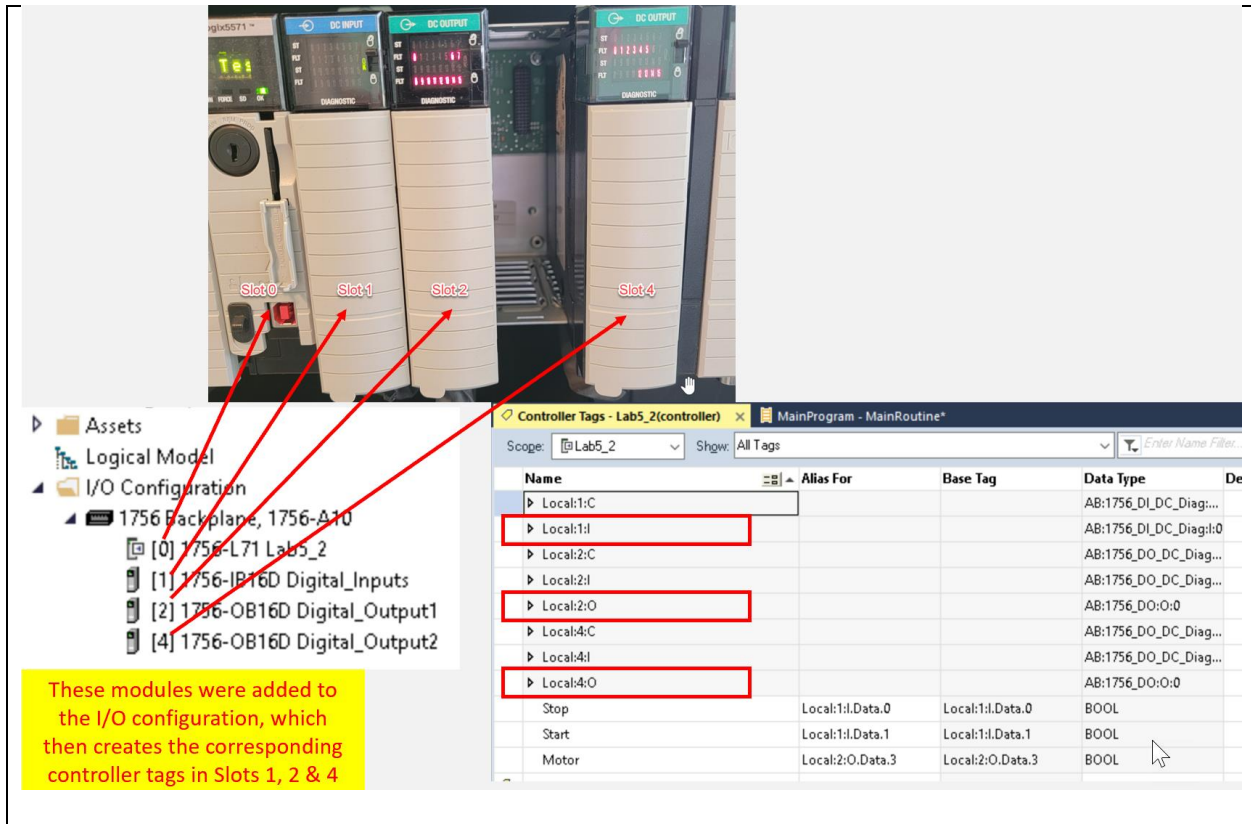

Figure 2. Adding the I/O modules to the I/O Configuration.
2. **Add the I/O modules to the I/O configuration.** Right mouse click on the Backplane in the I/O Configuration and add the discrete I/O modules. The corresponding Controller Tags will be created as shown in Figure 2.